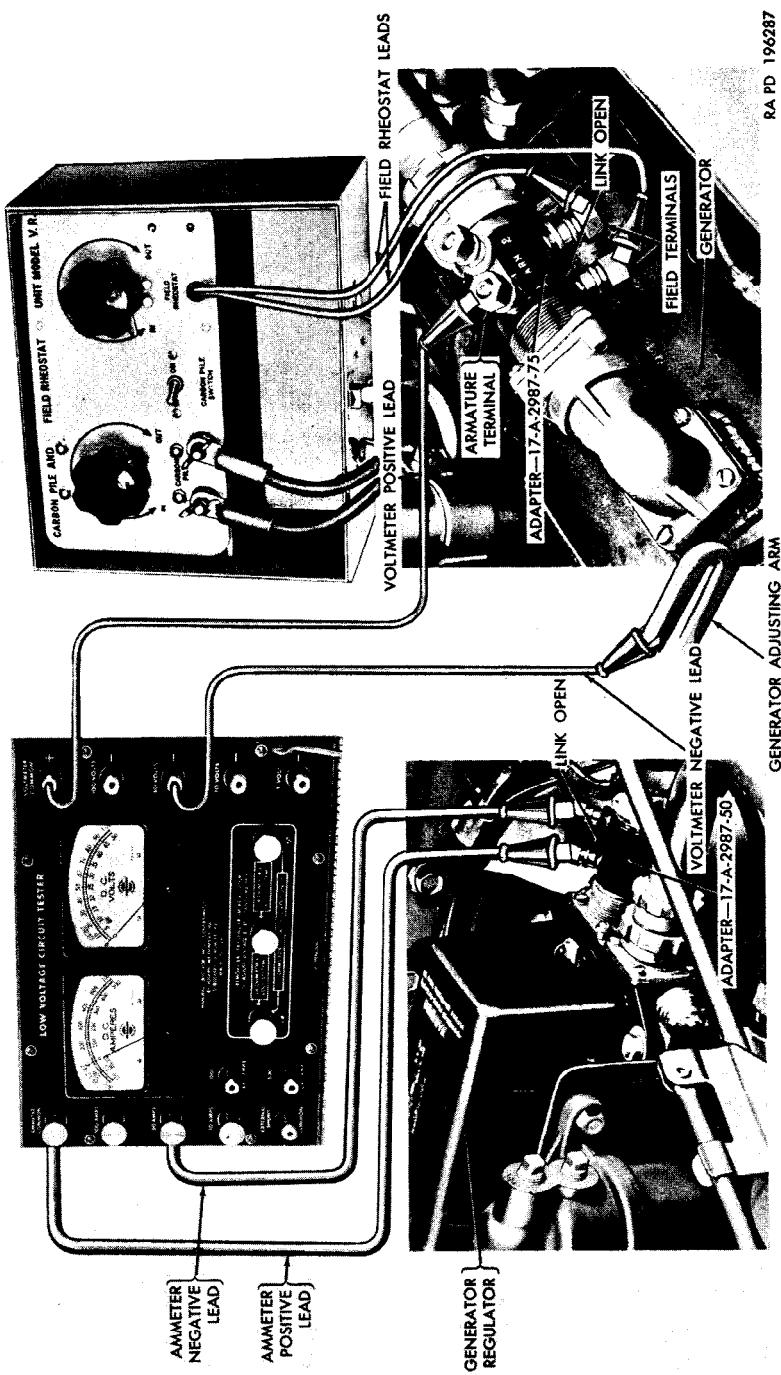

Figure 54. Checking circuit breaker unit.
- (3) *Connect voltmeter positive (+) test lead.* Connect the voltmeter positive (+) test lead to the positive (+) terminal of the low voltage circuit tester and attach the clip end of the lead to the inner terminal of the adapter.
- (4) *Connect voltmeter negative (-) test lead.* Connect the voltmeter negative (-) test lead to the 50 VOLTS terminal of the tester and attach the clip end of the lead to the regulator mounting stud nut.
- (5) *Connect battery-to-ground cable.* Connect the battery-to-ground cable to the negative (-) post of the outer battery and start the engine.
- (6) *Cycle voltage regulator.* Operate the engine at a speed equivalent to 20 mph for several seconds; then reduce the engine speed to cycle the voltage regulator.
- (7) *Read voltmeter.* Repeat (6) above three or four times, then increase engine speed to the equivalent of 20 mph and read the voltage on the lower scale of the voltmeter. Voltage reading should be from 27 to 28 volts for hot climate or summer months, and 28 to 29 volts for cold climates or winter months.
- (8) *Perform necessary repairs.* If the voltage is not within the specified limits, replace the generator regulator (par. 165) or notify ordnance maintenance personnel.
- (9) *Remove testing equipment.* After completing the test, remove the testing equipment (f(12) above) and connect the cable to the generator regulator rear receptacle.
j. Check Circuit Breaker Unit Closing Voltage (fig. 54). The circuit breaker unit check is to determine whether the circuit breaker unit in the generator regulator functions properly. In order to obtain an accurate diagnosis of circuit break unit performance, the generator voltage regulator must be functioning properly (*i* above).
- (1) *Disconnect battery-to-ground cable.* Disconnect the battery-to-ground cable from the negative (-) post of the outer battery.